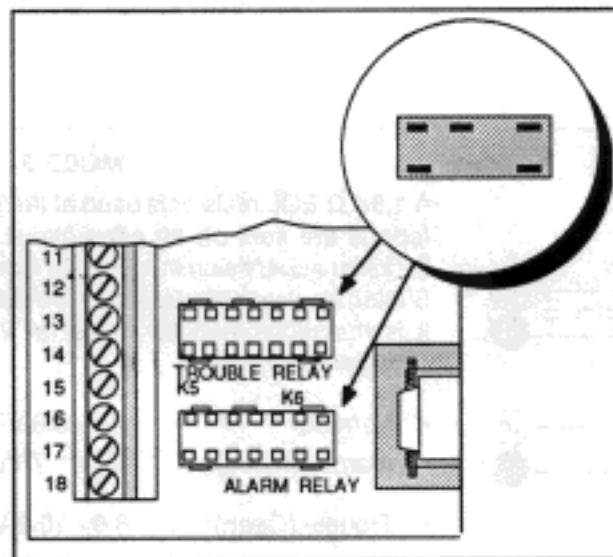

Figure 5: Relay Sockets
1. Slide back the D2071A cover to expose the socket as shown in Figure 5.
2. The D136 relay has two pins on one side and three pins on the other side. Place the relay into socket with the pins oriented as shown in Figure 5. You can install the relay flush left or right.